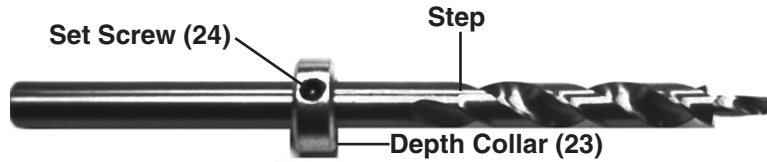

Figure 6
Collar (23) on the Step Drill Bit (22). Drilling depth is adjusted by changing the position of the Depth Collar (23) on the shank of the Step Drill Bit (22). The “Step” of the Drill Bit is the area where the Drill Bit portion stops and the plain metal rod portion begins. Attaching the Depth Collar closer to the Step will render a shallower hole, attaching the Depth Collar further from the Step will make a deeper pocket hole. When the depth is decided, secure the Depth Collar (23) by tightening the Set Screw (24) on the side with the 2.5mm Hex Wrench (20). **(See Figure 6)**